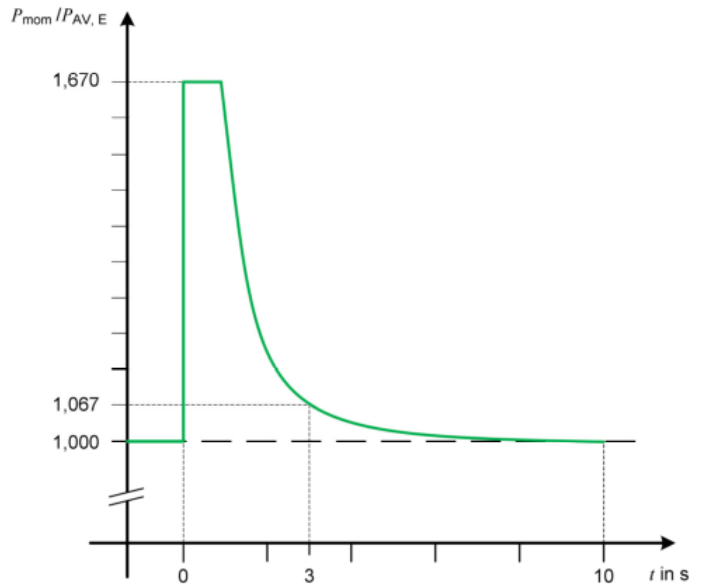

Bild 1 – Wirkleistungs-Grenzkurve für Erzeugungsanlagen
2) P_{AC} : Real power flow at S1 in Figure 1. Positive means power from PGU to utility. Nominal is the 0 % test condition value.
3) Q_{AC} : Reactive power flow at S1 in Figure 1. Positive means power from PGU to utility. Nominal is the 0 % test condition value.
Note: RLC is adjusted to min. +/-1% of the inverter rated output power ¹⁾ P _{PGU} : PGU output power ²⁾ P _{AC} : Real power flow at S1 in Figure 1. Positive means power from PGU to utility. Nominal is the 0 % test condition value. ³⁾ Q _{AC} : Reactive power flow at S1 in Figure 1. Positive means power from PGU to utility. Nominal is the 0 % test condition value. ⁴⁾ Fundamental of I _{AC} when RLC is adjusted ⁵⁾ BL: Balance condition, IB: Imbalance condition. Condition B: PGU output power P _{PGU} = 50 % – 66 % of maximum PGU input voltage ⁶⁾ = 50 % of rated input voltage range, ±10 % ⁶⁾ Based on PGU rated input operating range. For example, If range is between X volts and Y volts, 50 % of range =X + 0,5 × (Y – X). Y shall not exceed 0,8 × PGU maximum system voltage (i.e., maximum allowable array open circuit voltage). In any case, the PGU should not be operated outside of its allowable input voltage range. The test results of the A17C53Z1-20 can be applied to other units in the product series directly, since it is identical in hardware and just power derated by software.
Note: RLC is adjusted to min. +/-1% of the inverter rated output power ¹⁾ P _{PGU} : PGU output power ²⁾ P _{AC} : Real power flow at S1 in Figure 1. Positive means power from PGU to utility. Nominal is the 0 % test condition value. ³⁾ Q _{AC} : Reactive power flow at S1 in Figure 1. Positive means power from PGU to utility. Nominal is the 0 % test condition value. ⁴⁾ Fundamental of I _{AC} when RLC is adjusted ⁵⁾ BL: Balance condition, IB: Imbalance condition. Condition C: PGU output power P _{PGU} = 25 % – 33 % ⁶⁾ of maximum PGU input voltage ⁷⁾ < 20 % of rated input voltage range ⁶⁾ Or minimum allowable PGU output level if greater than 33 %. ⁷⁾ Based on PGU rated input operating range. For example, If range is between X volts and Y volts, 20 % of range =X + 0,2 × (Y – X). Y shall not exceed 0,8 × PGU maximum system voltage (i.e., maximum allowable array open circuit voltage). In any case, the PGU should not be operated outside of its allowable input voltage range. The test results of the A17C53Z1-20 can be applied to other units in the product series directly, since it is identical in hardware and just power derated by software.
The test in accordance with 5.7.2.1 is considered passed if the active power measured at the grid connection point does not exceed the limit curve in VDE-AR-N 4105:2018-11, 5.5.2, Figure 1.